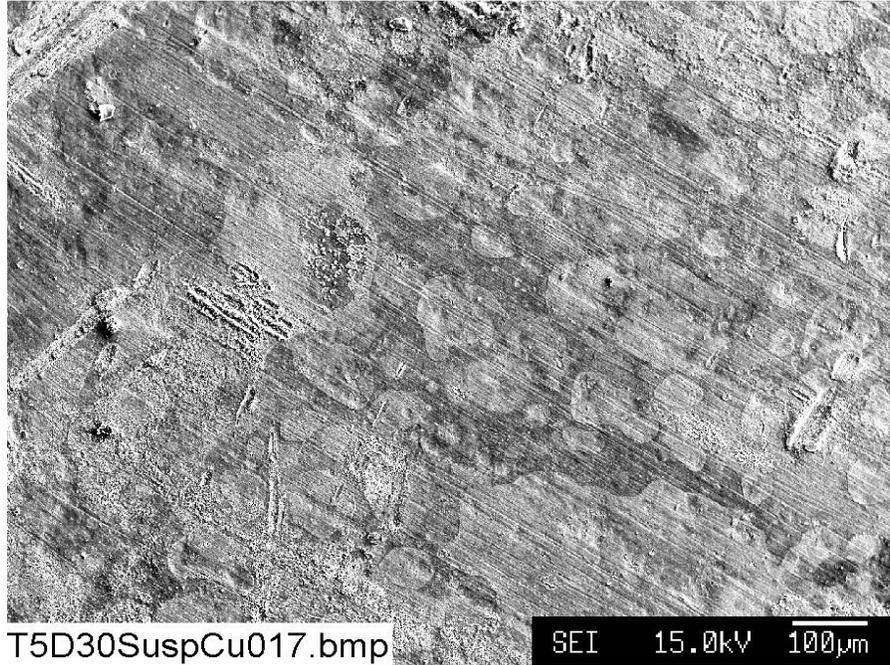

Figure E2-1. SEM image magnified 100 times for a Test #5, Day-30 unsubmerged copper coupon sample. (T5D30SuspCu017.bmp)
- Figure E2-1. SEM image magnified 100 times for a Test #5, Day-30 unsubmerged copper coupon sample. (T5D30SuspCu017.bmp)E2-5